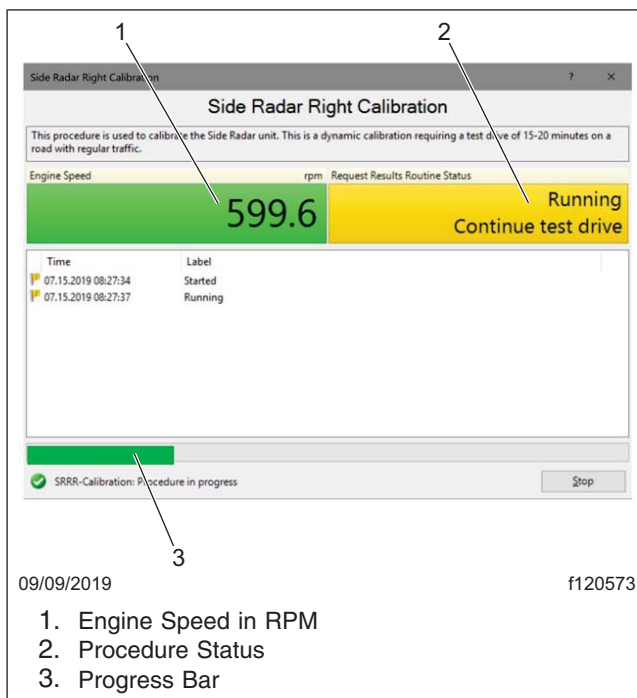

Fig. 31, Calibration Layout
7. Release the parking brake, then start driving. **Figure 31** shows the calibration panel layout.